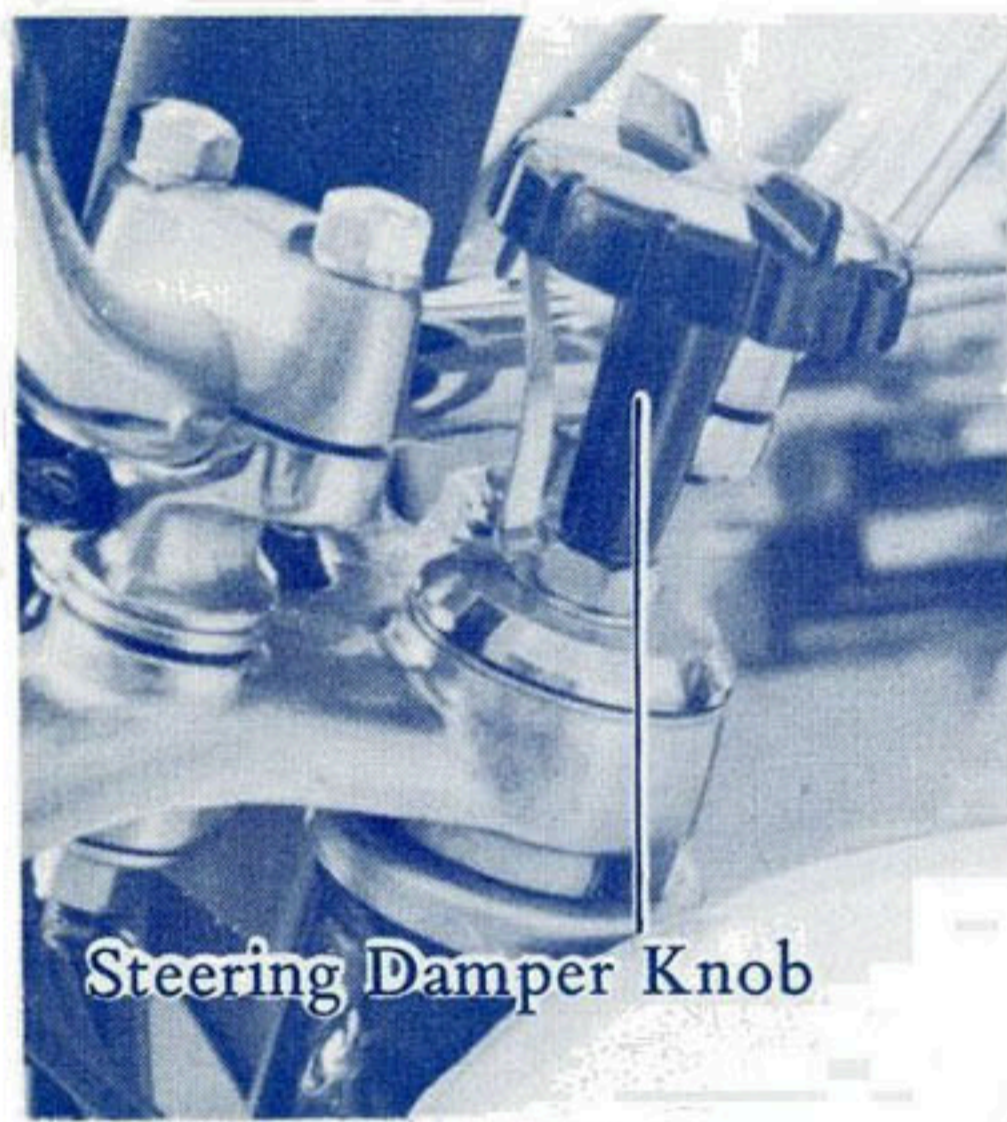

Fig. 16
2. Fit steering damper knob with following parts as shown in fig. 16, 17, 18.